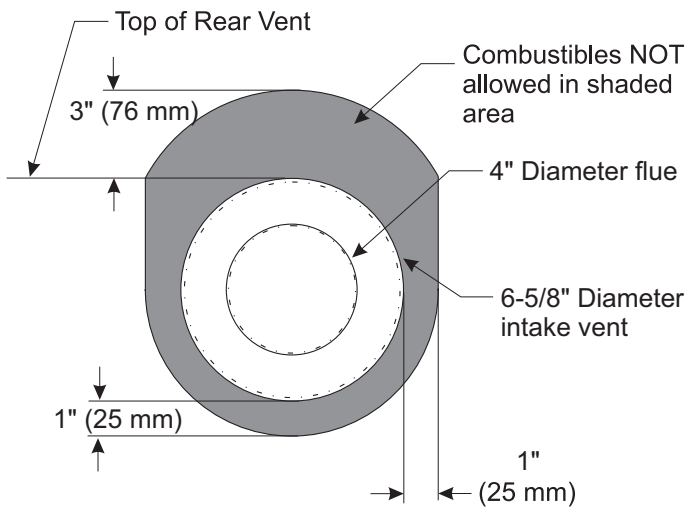

Figure 12
**NOTICE:** For horizontal vent, maintain a minimum 1-inch clearance to the bottom and sides of the vent and 3-inch clearance to combustibles above the vent pipe. See Figure 12.